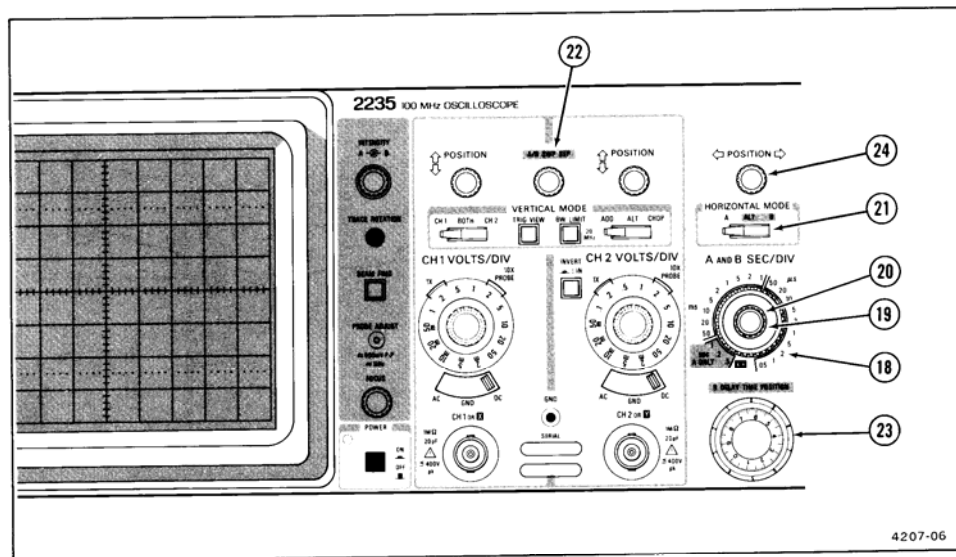

Figure 2-5. Horizontal controls.
Refer to Figure 2-5 for location of items 18 through 24.
- ⑱ **A and B SEC/DIV Switches**—Used to select the sweep speeds for the A and B Sweep generators in a 1-2-5 sequence. To obtain calibrated sweep speeds, the A and B SEC/DIV Variable control must be in the calibrated detent (fully clockwise).